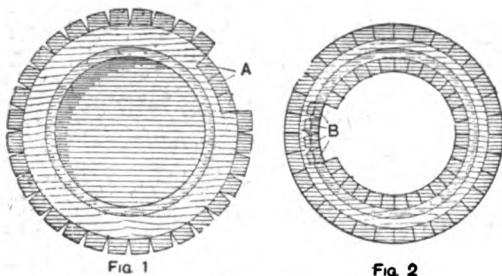

Fig. 1 Fig. 2
**Covering Circular Frames with Plush.**—Take a circular piece of plush, 2 in. to 1½ in. larger in diameter than the frame, cut all round the edges to the depth of plush that will overlap the frame; lay the plush right side down on the table without creasing it, apply round the front of the frame a touch of glue, which must be strong and not watery. Then lay the frame on the plush, and strain it tight by pulling it with the hands; then by different stages apply the glue at the back and overlap the overhanging plush, taking 3 in. or 4 in. at a time (see A, Fig. 1). Press the plush into contact with the wood with a bone paper-knife or piece of wood. When completed and nicely set, with tailor's chalk draw a circle in the centre of the plush, then cut it out with scissors; leave a margin of 1 in. or ½ in., so as to overlap on the rebate of frame. To get the circle easily, a dinner plate may be employed as a guide. After cutting out the circle